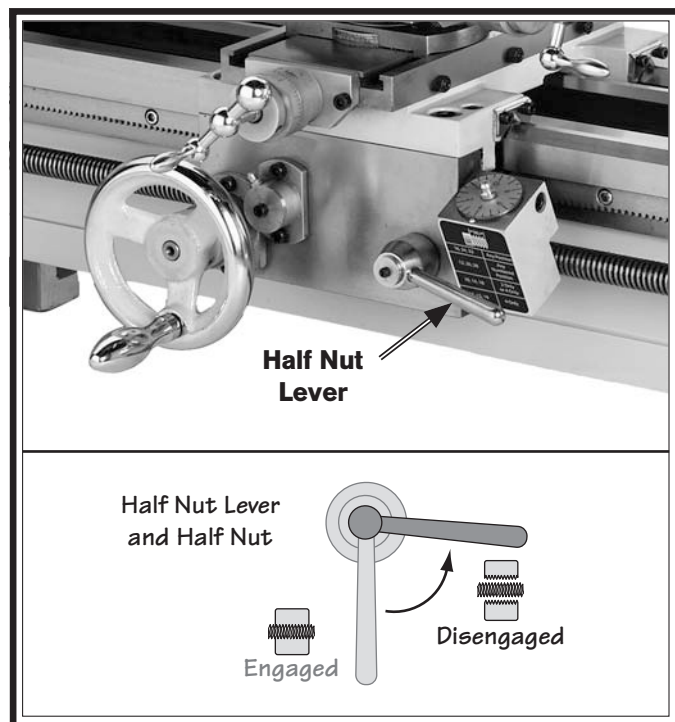

Figure 17. Half nut lever in the disengaged position.
9. To prevent the carriage from unexpectedly moving during further steps, move the half nut lever up to disengage the carriage from the leadscrew (see **Figure 17**).